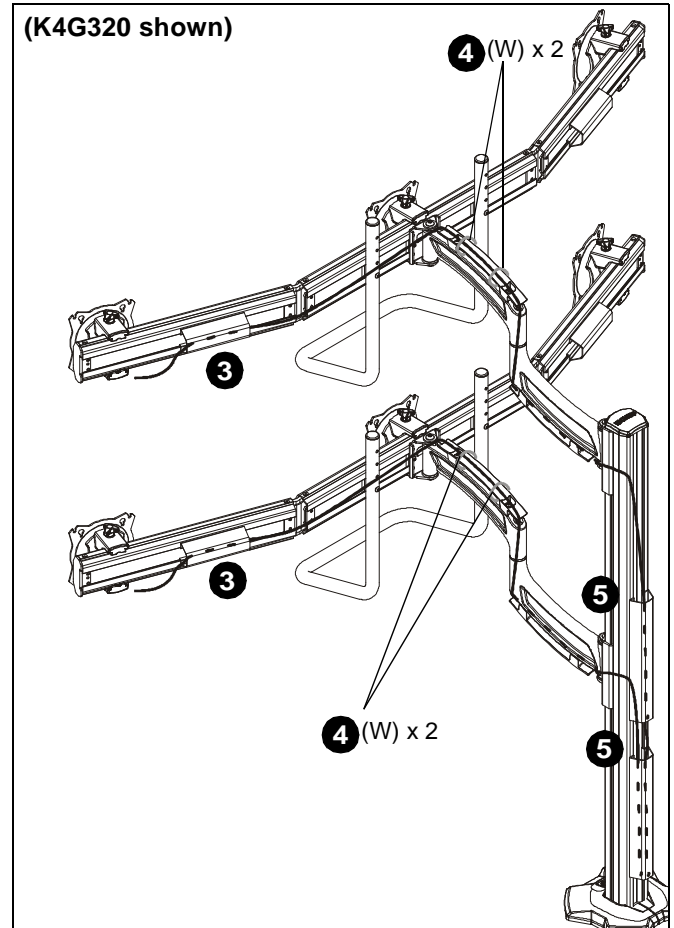

Figure 19
3. Route cables from display through cable management covers (M) on array arms as desired. (See Figure 19)
4. Route cables along swing arms, using cable ties (W) to secure cables to arms. (See Figure 19)
5. Route cables through cable management covers on columns (L) as desired. (See Figure 19)